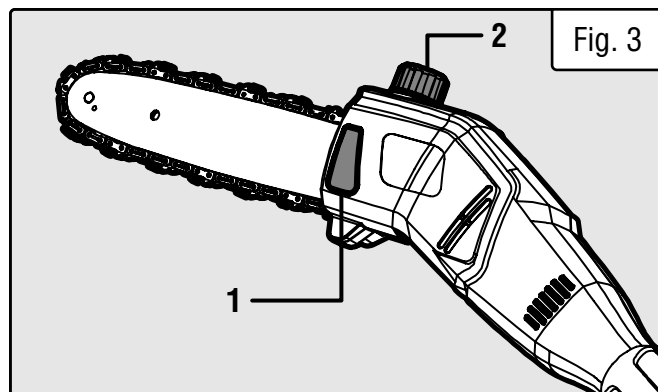

Fig. 3
This pole saw features an auto-oiling system to keep the chain and guide bar properly lubricated. The oil level window (Fig. 3 - 1) shows the remaining oil in the pole saw. If the oil level decreases to below one quarter capacity, refill it with the proper bar and chain oil.
1. Place the saw on a level surface. Clean the area around the oil tank cap (Fig. 3 - 2) to avoid getting dirt into the oil tank. Once clean, remove the oil tank cap.